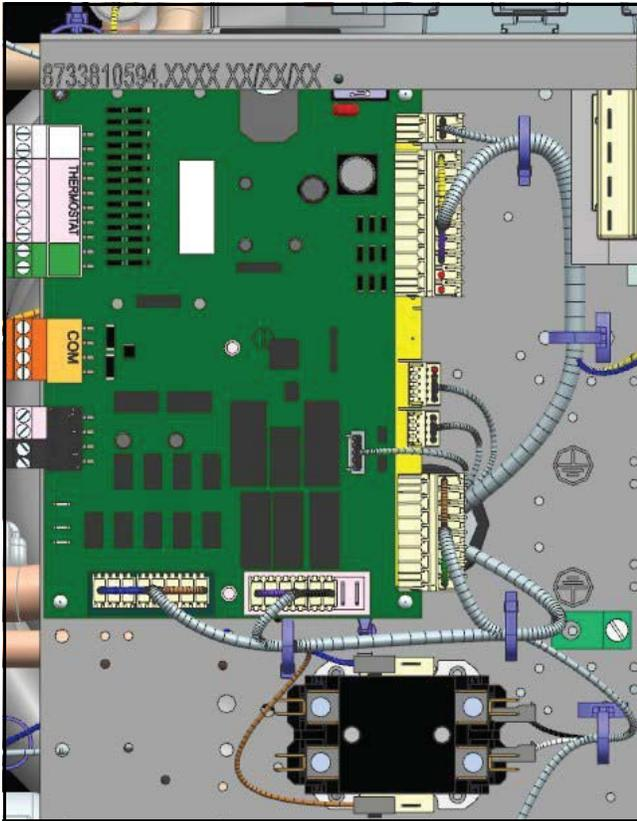

Fig. 15 HPC Harness Connections
3. Identify the standard harnesses connected to the HPC (see Fig. 15), and carefully detach them from the controller.